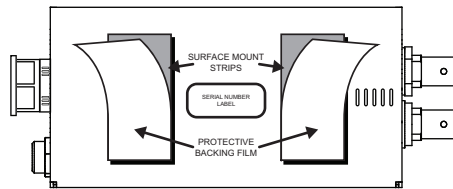

Figure 6.1 Surface Mount Installation Option
2. Adhere the **Surface Mount Strips** to the bottom side of the chassis **Figure 6.1**.